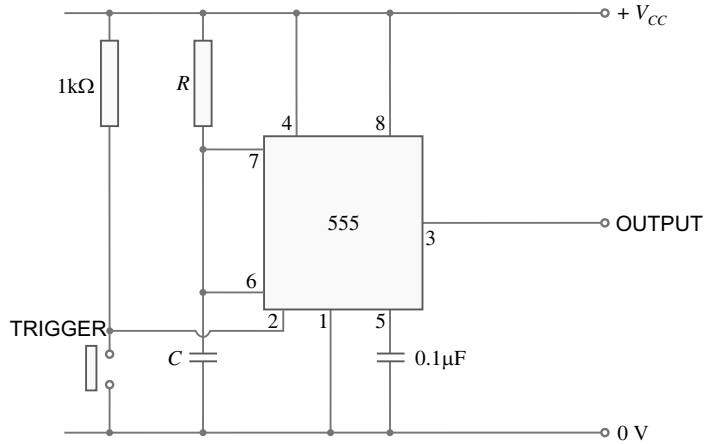

Fig. 21.19
(iii) **The 555 Timer as monostable multivibrator.** Fig. 21.19 shows the circuit of the 555 timer as a monostable multivibrator. The  $R$  and  $C$  are the external components whose values determine the time  $T$  (in seconds) for which the circuit is on. This time is given by ;
**Example 21.3.** The monostable multivibrator like the one in Fig. 21.19 has the values of  $R = 1.2 \text{ k}\Omega$  and  $C = 0.1 \text{ }\mu\text{F}$ . Determine the time  $T$  for which the circuit is on.